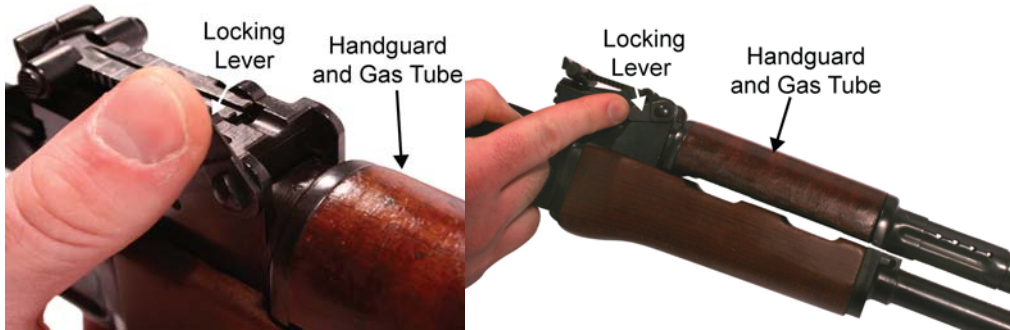

Figure 17. Locking the Rear of the Handguard in Place.
- b. Push the rear of the handguard down, seating it against the rear sight base. Push the locking lever down until it clicks, locking in place. Refer to Figure 17.